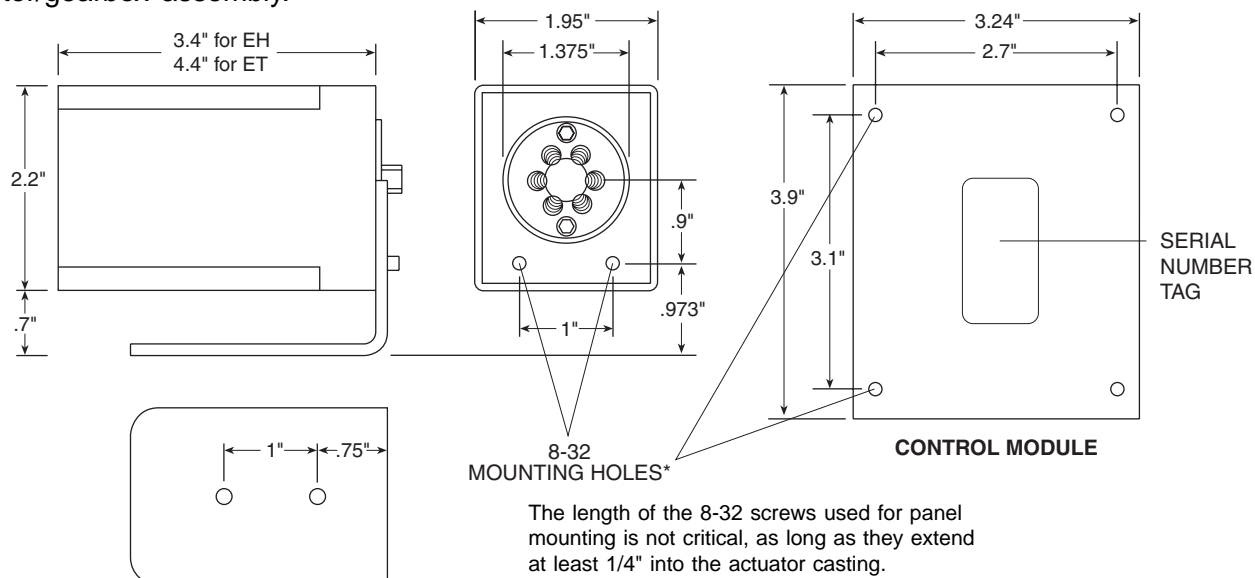

Figure 2
* Serial numbers are on the underside of the control module. (**Figure 2**) Actuators of this series are further identified by a metallic control module housing. If your actuator control module has a plastic housing and a serial number starting with E2CA, please refer to Technical Note 421.
The actuator should be oriented so that any potential leakage of liquid from the valve or fittings flows away from rather than into the actuator. (below) **Figure 2** provides the mounting dimensions for the stepper motor/gearbox assembly.